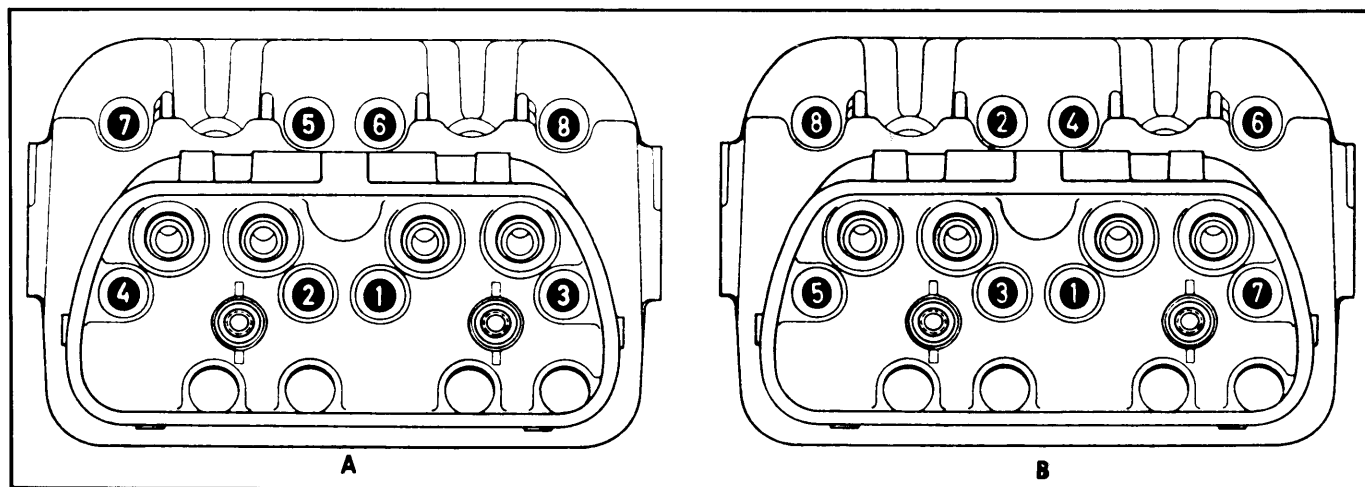

Fig. 2 Initial (A) and Final (B) Cylinder Head Tightening Sequence
2) Install cylinder head washers and nuts to studs and tighten just enough to hold head and pushrod tubes in place. Tighten nuts evenly in sequence shown in Fig. 2 "A" to 7 ft. lbs. (1 mkg), then tighten in sequence shown in Fig. 2 "B" to final torque. Reverse removal procedure for remaining components and adjust valve clearance.